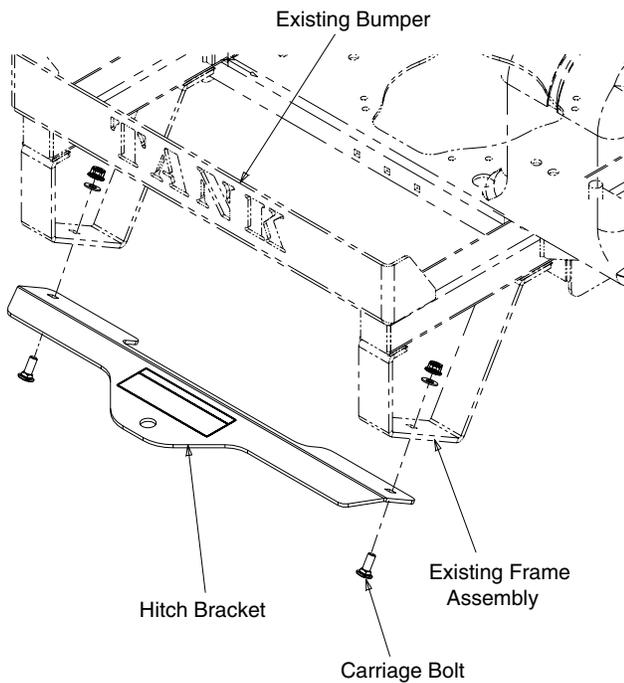

Figure 5
12. On one end of the hitch bracket Ref. 5 (02002536), feed a 3/8-16 x 1.0 long carriage bolt Ref. 3 (01000643) from the underside up through the existing frame assembly. See Figure 5 below.